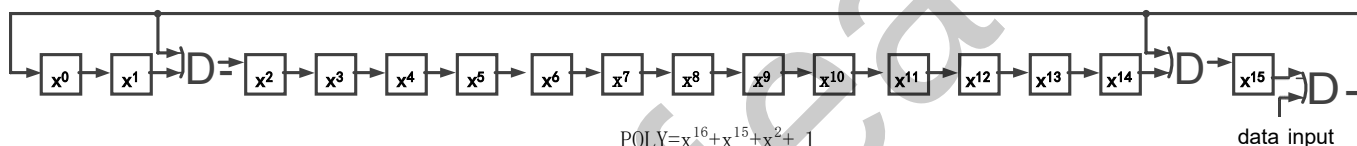

Figure 10 CRC-16 Generator
The 16-bit checksum serves as a cyclic redundancy check (CRC) for the 1-Wire data packet (excluding the checksum field itself), using the generating polynomial $x^{16} + x^{15} + x^2 + 1$. Unlike the CRC-8 used in the ROM ID, the CRC-16 is transmitted as the complement of the computed result. The FW28E17Q integrates a CRC-16 generator, as illustrated in Figure 10, which performs the CRC calculation concurrently with packet reception. If the calculated value does not match the received checksum, the Error Detection (ED) pin is asserted and the device enters an idle state..